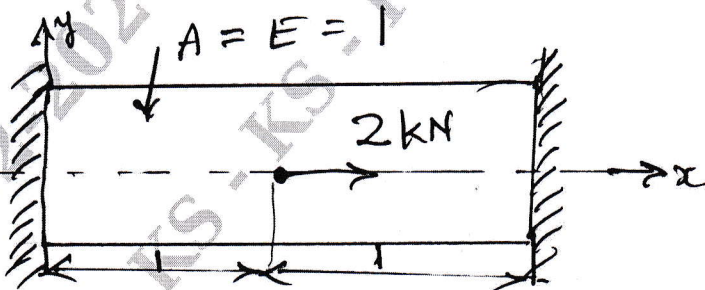

Fig Q2(b)
- b. Determine the displacement at midpoint and stress in the linear 1 – D rod shown in the Fig Q2(b). Use second degree polynomial approximation.